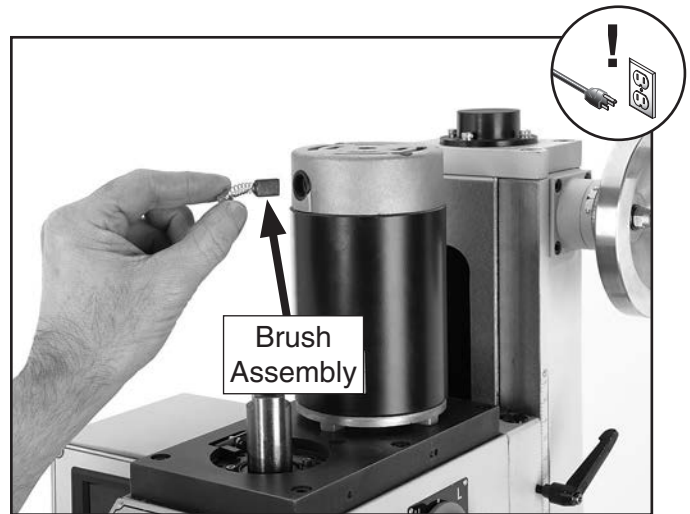

Figure 61. Installing new brush assembly.
4. Remove the old brush assembly. If the brush is worn down to less than 1/4" (6mm) then replace it with a new one. Otherwise re-install the brush (**Figure 61**).